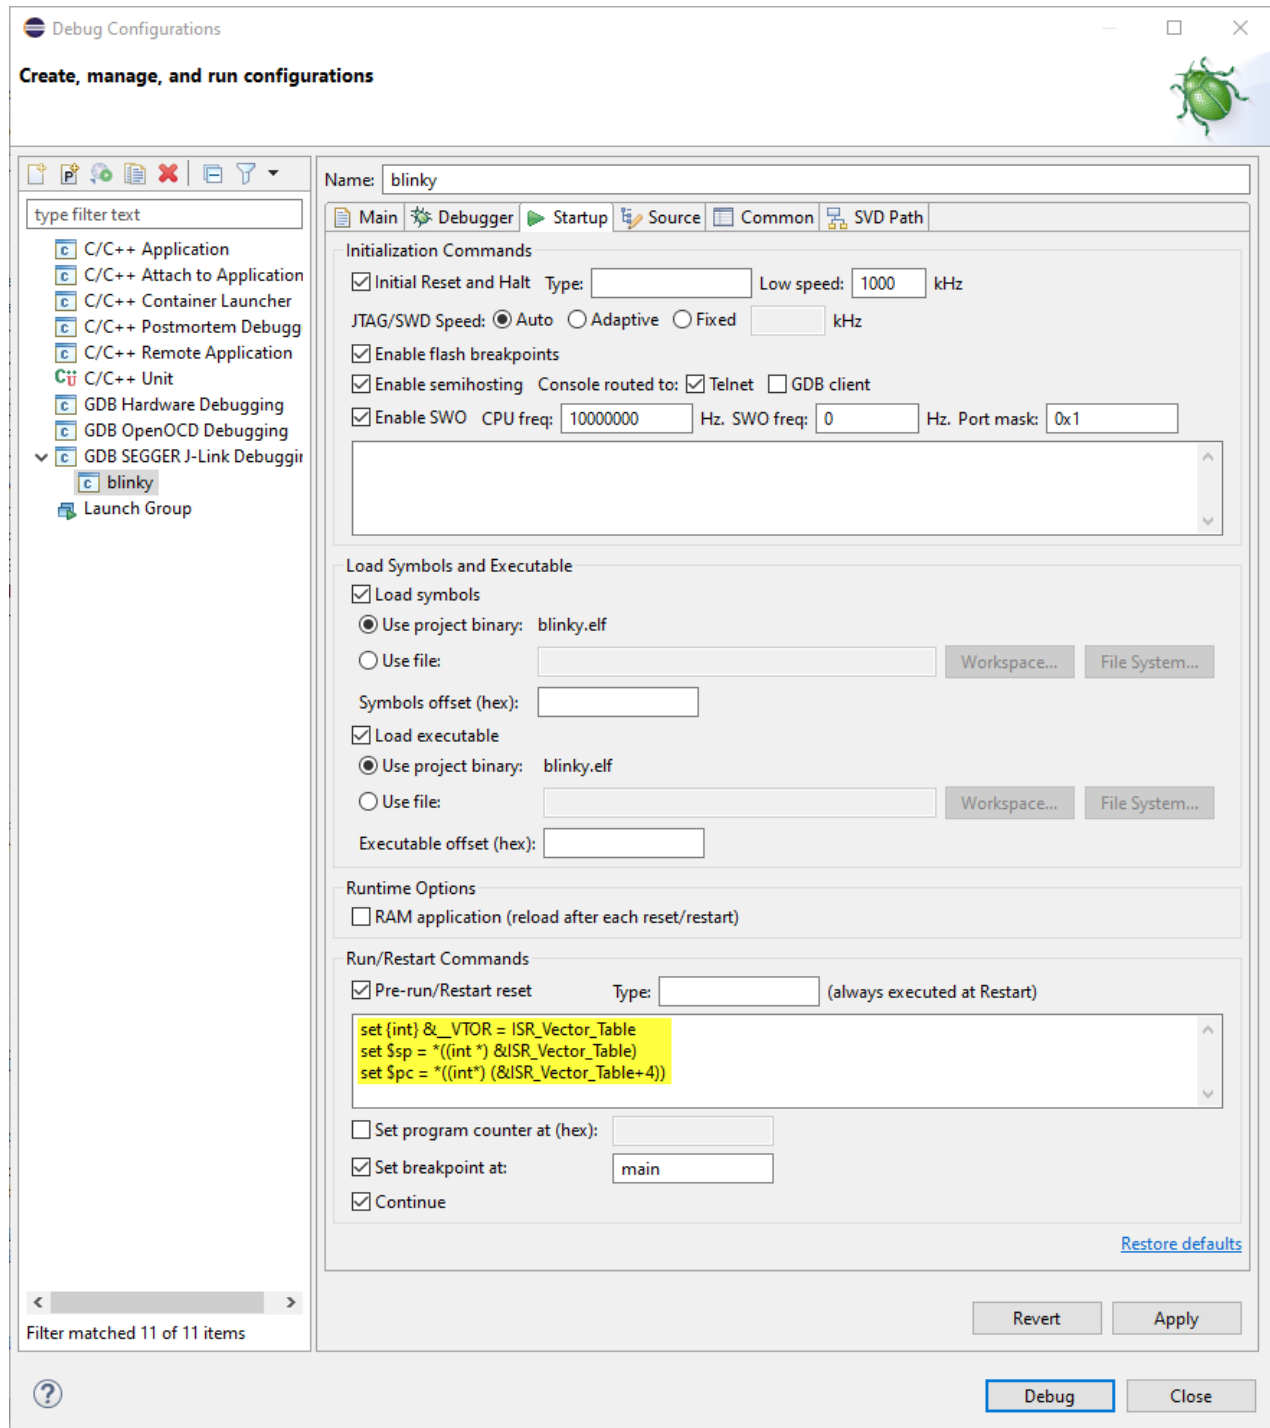

Figure 44. Setting Up a GDB Launch Configuration, Startup Tab
2. Enter the following in the **Run/Restart Commands** field, as illustrated in the figure "Setting Up a GDB Launch Configuration, Startup Tab" (Figure 44):